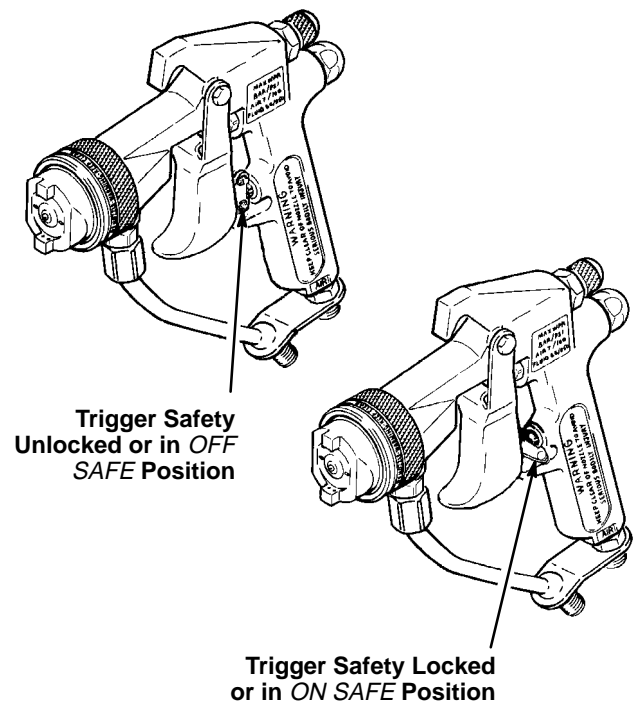

Fig. 2
1. Lock the spray gun trigger safety to avoid accidentally triggering the gun. See Fig. 2.